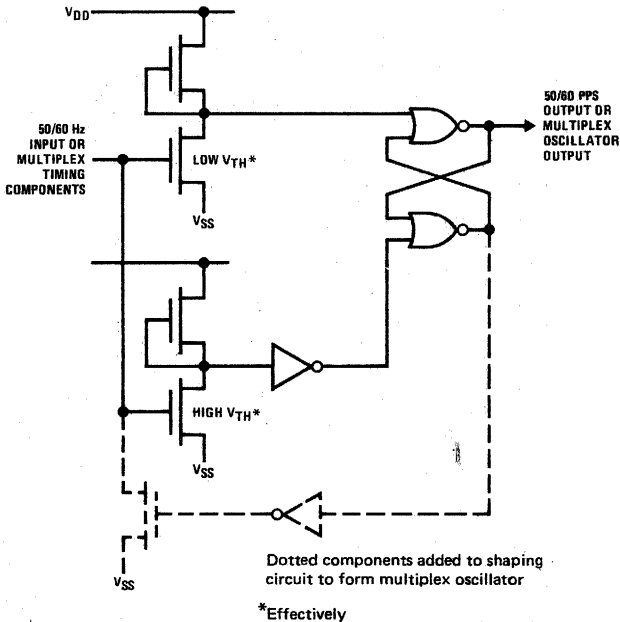
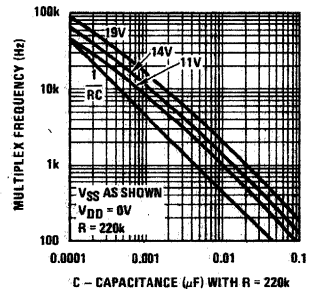
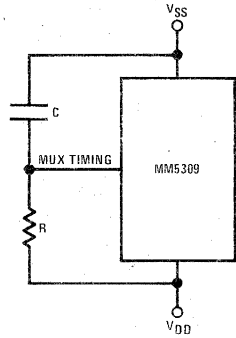

FIGURE 2. 50/60 Hz Shaping Circuit/Multiplex Oscillator
FIGURE 3. Multiplex Timing Component Selection Guide
FIGURE 4a. Relaxation Oscillator
**Multiplex Timing Input:** The multiplex oscillator is shown in *Figure 2*. Adding an external resistor and capacitor to this circuit via the multiplex timing input (as shown in *Figure 4a*) produces a relaxation oscillator. The waveform at this input is a quasi-sawtooth that is squared by the shaping action of the Schmitt Trigger in *Figure 2*. *Figure 3* provides guidelines for selecting the external components relative to desired multiplex frequency.